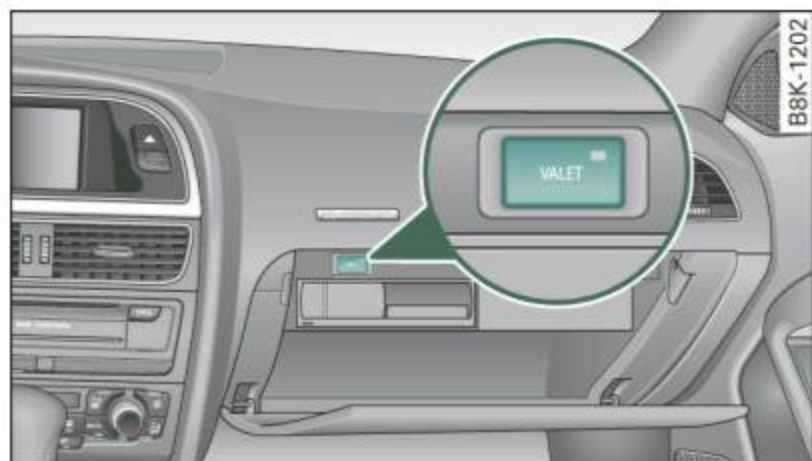

Fig. 46 Valet parking button
- Open the glove box ⇒ *page 93* and activate ⇒ *fig. 46* the “valet parking” feature by pressing the **VALET** button. The indicator light in the switch illuminates.